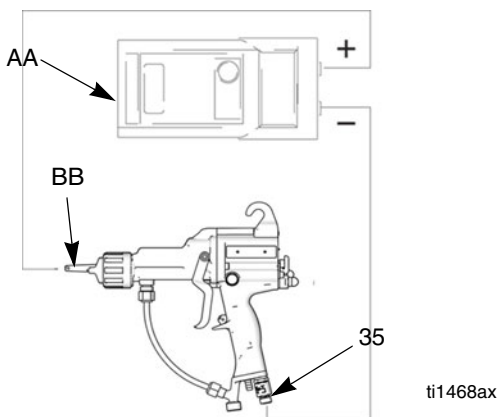
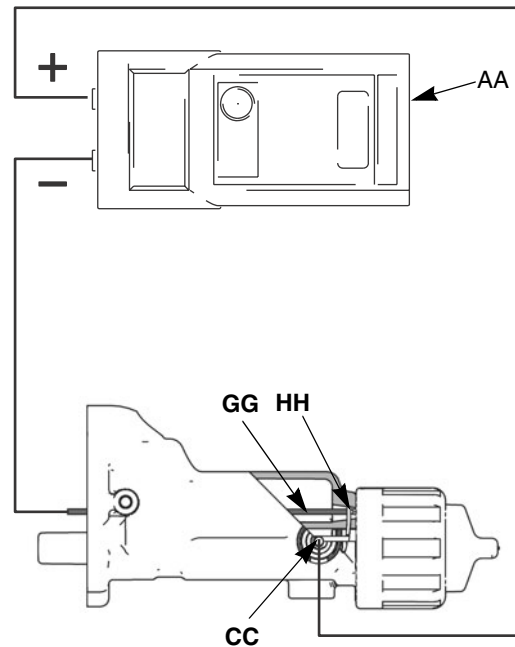

Fig. 8. Test Total Gun Resistance
Fig. 12. Test Barrel Resistance
<p>Fire, Explosion, and Electric Shock Hazard</p> <p>Megohmmeter Part No. 241079 (AA-see FIG. 8. through FIG. 12.) is not approved for use in a hazardous areas. To reduce the risk of sparking, do not use the megohmmeter to check electrical grounding unless:</p> <ul style="list-style-type: none"> • The gun has been removed from the hazardous area; or • all spraying devices in the hazardous area are turned off, ventilation fans in the hazardous area are operating, and there are no flammable vapors in the area (such as open solvent containers or fumes from spraying). <p>Failure to follow this warning could cause fire, explosion, and electric shock and result in serious injury and property damage.</p>
Measure resistance between the charging probe tip (BB) and the air swivel (35) (see FIG. 8.); it should be 90-130 megohms. If outside this range, go to the next test. If in range, refer to **Gun Repair** on page 27 for other possible causes of poor performance.
1. Insert a conductive rod (GG) into the gun barrel (removed for the power supply test) and against the metal contact (HH) in the front of the barrel.
2. Measure the resistance between the conductive rod (GG) and the charging probe socket (CC). See FIG. 12. The resistance should be 15-30 megohms.